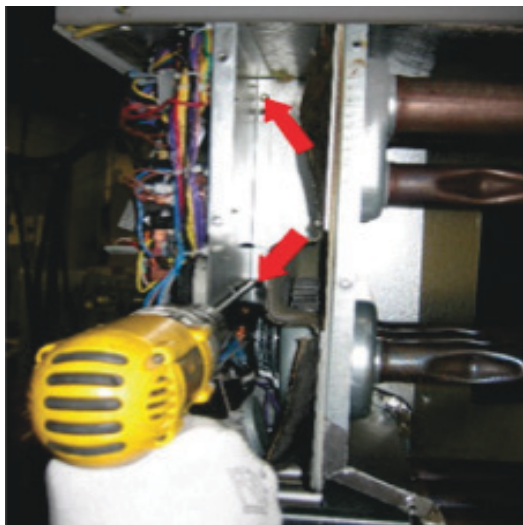
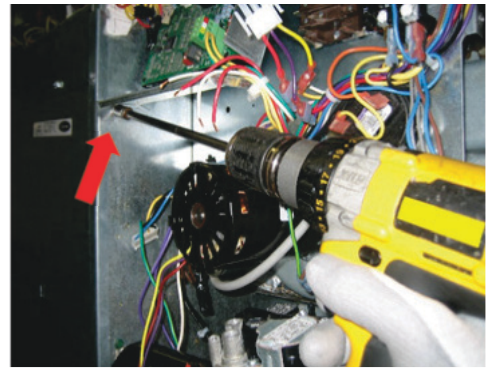

Fig. 33 – Removing Screws Behind Heat Shield
Fig. 34 – Removing Screw Under Control Board Panel ^{A210078}
13. Remove 2 screws from behind Heat Shield and 1 screw under control board panel (Fig. 33 and Fig. 34).